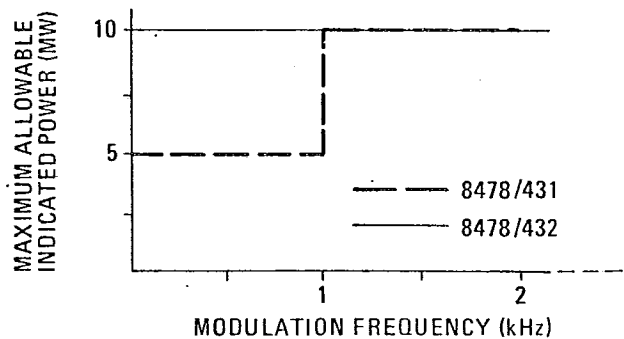

Figure 3. Maximum Power Meter Reading vs Square and Sine-Wave Frequency
20. Square-wave modulation is a special case of pulse modulation, and maximum power-meter reading versus square-wave frequency is illustrated in Figure 3. This figure also holds for sine-wave modulation.